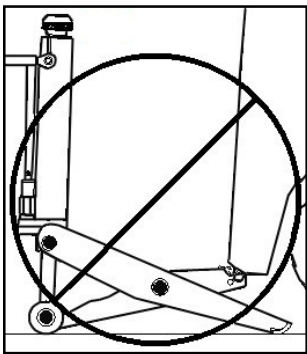

Fig. 10: Do not lift on rounded surface
- ⚠ Never lift with the jack positioned under a sloped or rounded surface, such as the bottom surface of a forklift's counterweights (Fig. 10).